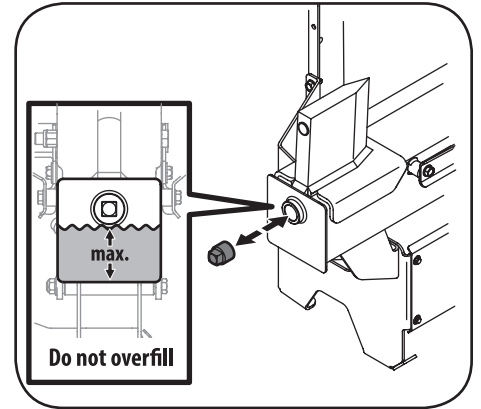

Figure 3-6
7. Remove the oil plug, which is located on the end of the beam assembly. See Figure 3-6.
8. Verify that the hydraulic fluid is to bottom of fill plug. See Figure 3-6.